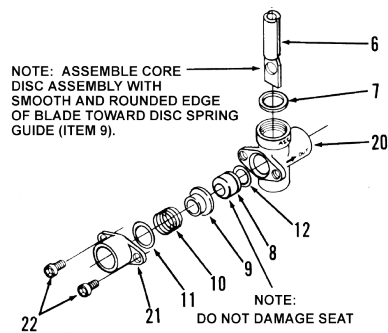

Figure 2-20 Solenoid Valve Diagram
Assemble valve core and blade (6), with the smooth side of the hole towards the disc spring guide (9), see Figure 2-20 *Solenoid Valve Diagram*, page 50.
Remove the solenoid body from fryer to replace seals, see Figure 2-20 *Solenoid Valve Diagram*, page 50 to help identify all parts.